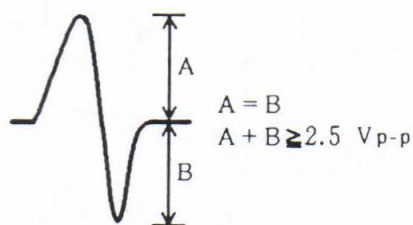

Figure 8
3. While watching the oscilloscope screen, press the PGM key and observe the waveform in Figure 8 for a moment. Verify that the amplitude is at least 2.5 Vp-p and that the positive and negative amplitude are about equal. Since the waveform is only output for a moment when the PGM key is pressed, press this key over and over until you have checked the waveform.